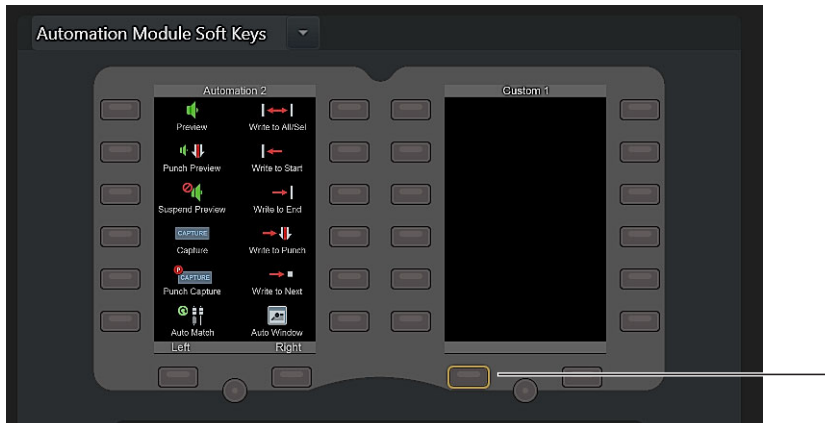

Figure 55. Selecting a key for page navigation
- 1 In the three keys across the bottom of the bank, tap to select the left key as shown in Figure 55.
- 5 Tap the **Action** selector and choose the desired action (for the “left” key selected in Figure 55, you would typically choose **Go to Previous Page**). If you choose **Jump to Specified Page**, the **Available Pages** list to the right lets you select the desired page.